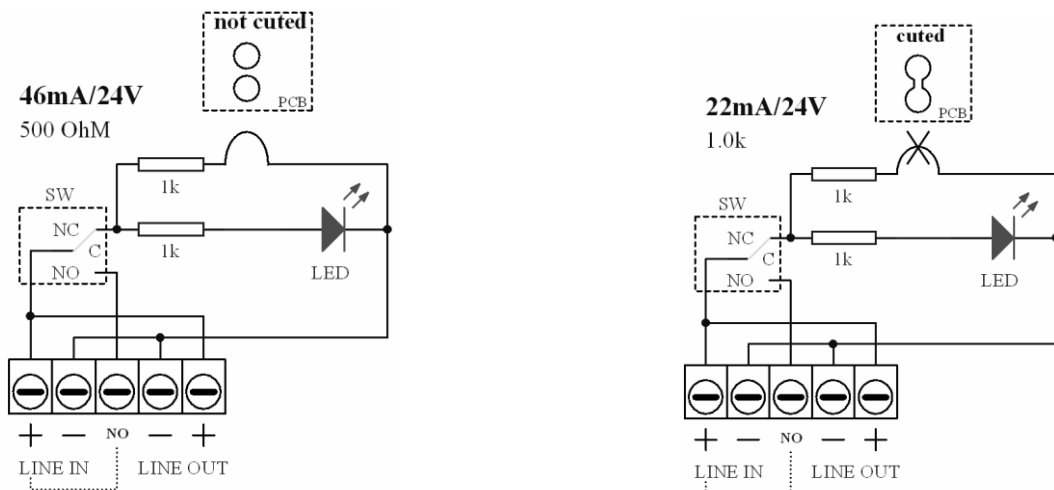

Fig.1
- Connect the electric cables according to the diagram (fig.1)